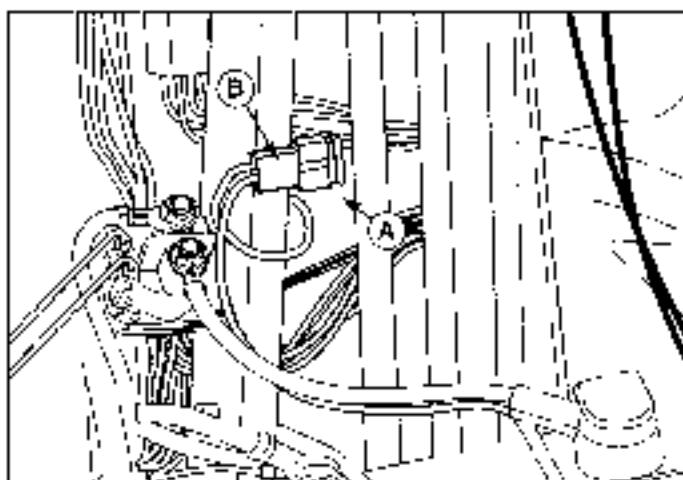
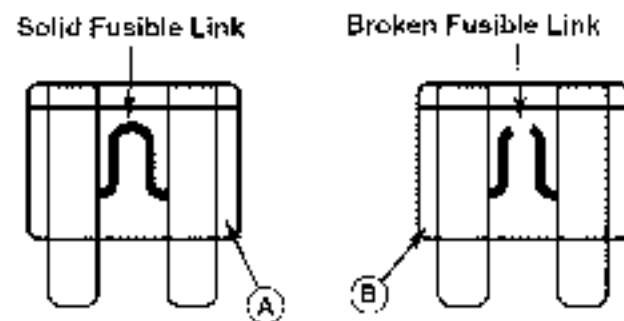

Figure 23. Fuse
Figure 24. Blade Type Fuse
1. Open the hood and locate the fuse holder (B, Figure 23) and fuse (A) Attached to the steering tower.
2. Hold the fuse holder (B) and pull out the fuse (A).
3. Inspect the fuse for a broken connection (see Figure 24). Replace fuse if connection is broken, if you are not sure if connection is broken replace fuse.
4. Hold the fuse holder (B) and insert new fuse (A) until it is seated properly.